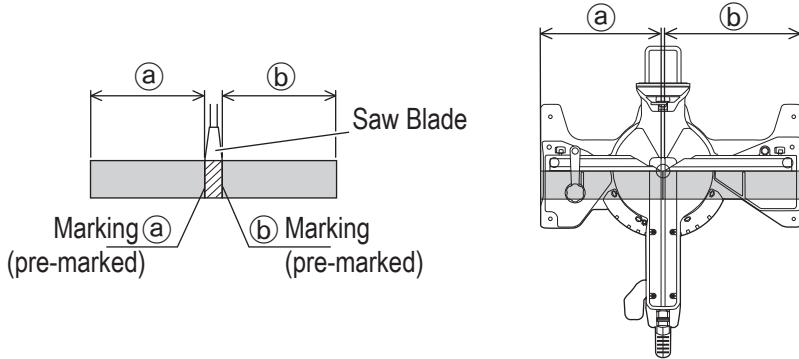

Fig. 21
(1) As shown in **Fig. 21** the width of the saw blade is the width of the cut. Therefore, slide the workpiece to the right (viewed from the operator's position) when length ⑥ is desired, or to the left when length ⑦ is desired.